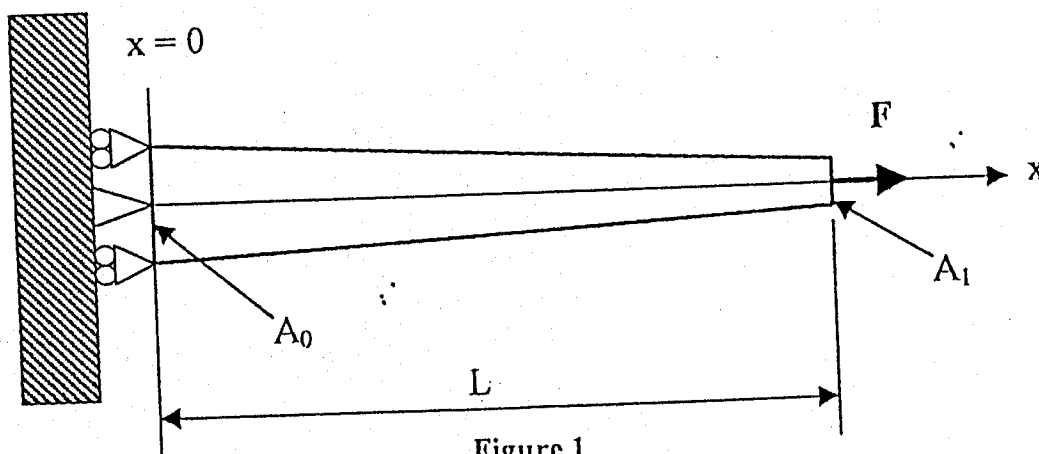

Figure 1
1. Consider the thin tapered bar with circular cross-section subject to an axial force  $F$  shown in Figure 1.
- (i) Write down an expression for the cross-sectional area  $A(x)$  as a function of  $x$ , in terms of the end areas  $A_0$  and  $A_1$ . (2)
- (ii) Assuming that the bar is made from an isotropic linear elastic material, write down expressions for the distributions of axial and transverse (or radial) strains in the bar as functions of  $x$ . You may also assume that the axial stress is uniformly distributed over a cross-section. (3)
- (iii) Sketch the strain distributions for the case of  $A_1 \rightarrow 0$ . (2)
- (iv) From (ii) above, derive expressions for the axial displacement as a function of  $x$  and the radial displacement as a function of  $x$  and the radius  $r$ . (8)
- (v) Write down an expression for the overall axial strain of the bar and establish a relationship between this and the axial strain distribution. Comment on the resulting relationship. (5)